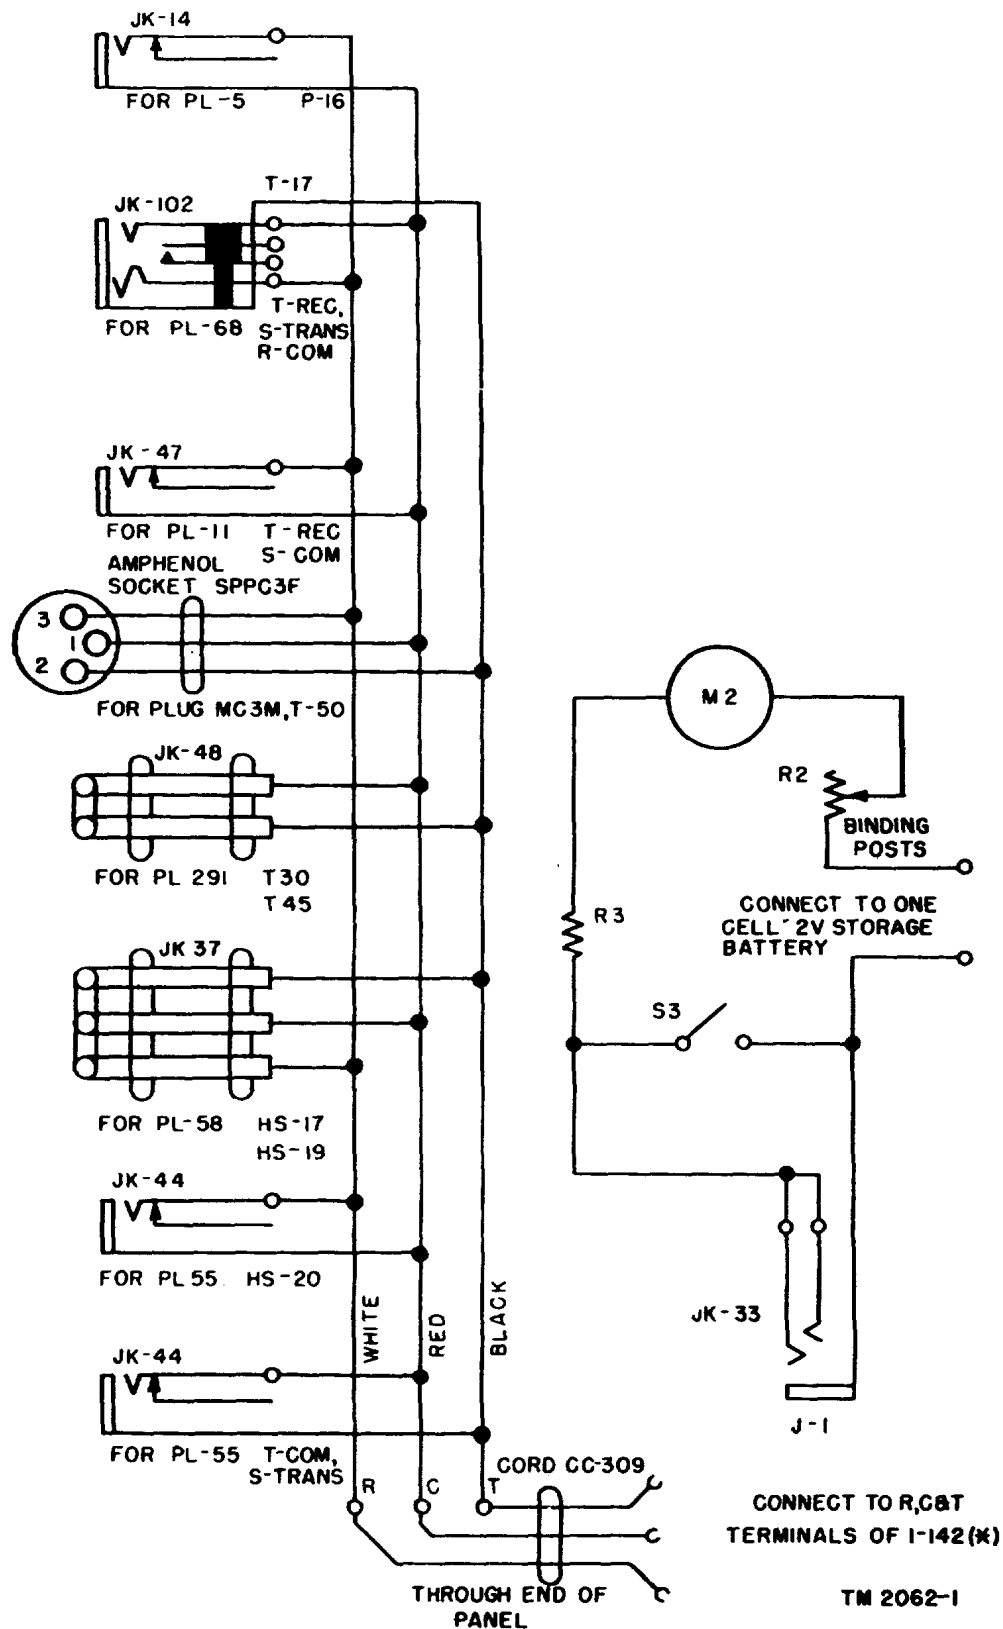

Figure 11. Jack box, wiring diagram.
Several types of microphones and headsets are equipped with plug-ended cords. To facilitate connecting these instruments to the test set, connectors having spade-type ends may be fabricated. These connectors consist of a jack wired with a short length of cordage, terminated with spade-type cord tips fitting the clip terminal of the test set. The jacks which may be required to fit the plugs used on various instruments and the method of wiring these jacks are shown in the wiring diagram of the jack box (fig. 11). Where facilities are available for its construction and the quantity of instruments received for test justify its need, the various jacks may be mounted together to form a jack box.
e. WIRING. (1) Connect the apparatus in the jack box as shown in figure 11.
(2) Connect the white, red, and black conductors of Cord CC-309, or equivalent cordage, to R, C, and T terminals of Jack JK-37.
f. MOISTUREPROOFING AND FUNGIPROOFING FINISH. (1) After assembly, spray or brush the wiring and inside surfaces of the case with moisture- and fungi-resistant varnish (spec No. 71-2202; stock No. 6G 1005.3).